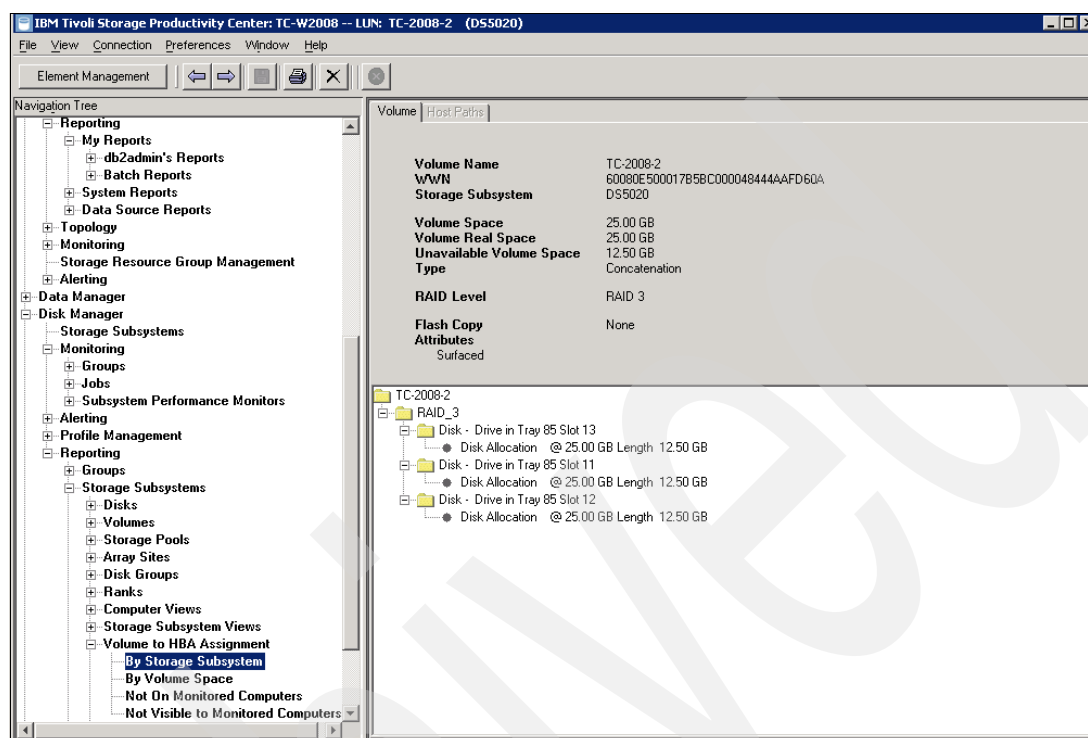

Figure 9-41 More detailed volume information
3. You can click the magnifier icon to the left of each row to see more detailed information about the volume, including the RAID level of the array. In our example, we click the magnifier icon on the left of volume TC-2008-2, and the result is shown in Figure 9-41.